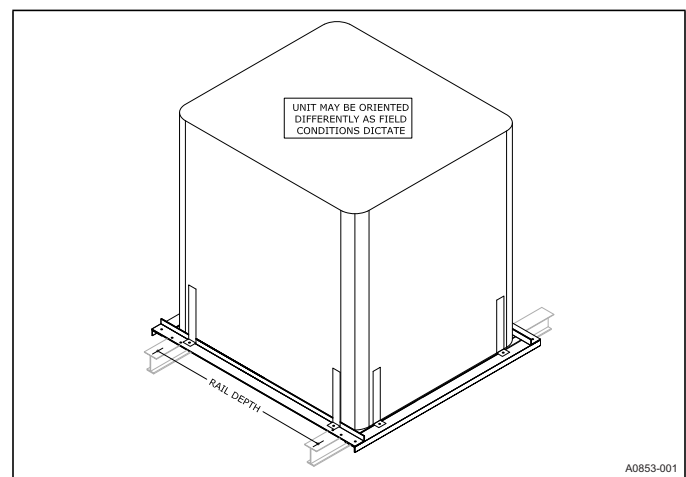

FIGURE 7: Roof Rail Depth
13. FOR ROOF MOUNT KITS: The fifth aluminum angle supplied in the kit is to provide support under the center of the unit where the compressor is located. This aluminum angle needs to be located perpendicular to the existing roof rails. Measure the depth of the existing roof rail from inside of the i-beam to the inside of the other i-beam, as shown in Figure 7. Cut the angle to fit. Drill holes in the roof rail and aluminum angle where the center of the unit will be located. Bolt this rail in place with angle down.